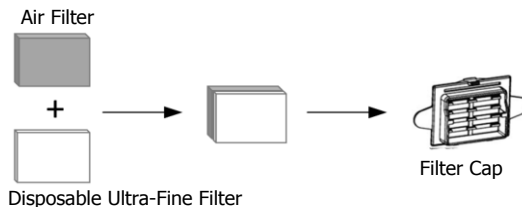

Fig. 12-2
(2) If the disposable ultra-fine filter is applied, place the standard air filter first, the standard air filter should be closest to the filter cap and the disposable ultra-fine filter should be closest to the device, as shown in Fig. 12-2.